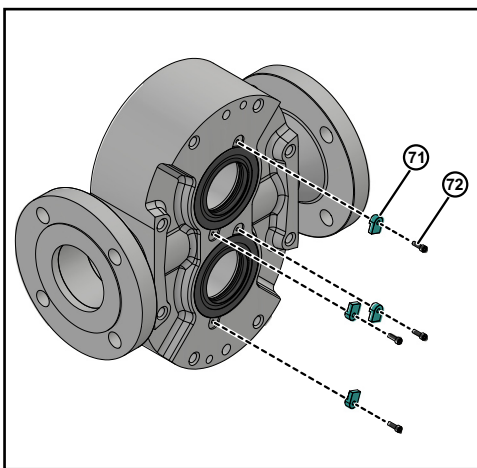
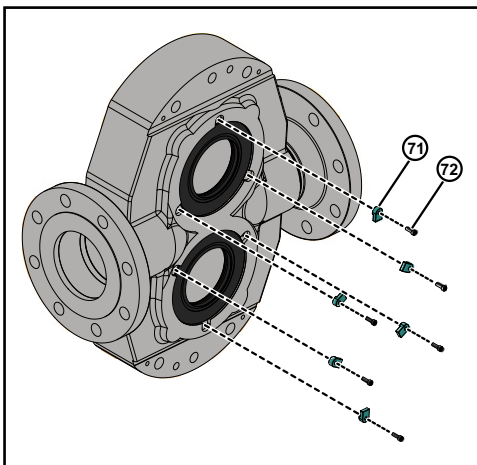

Figure 91 - Install Screws and Retainer-tab
Figure 92 - Install Screws and Retainer-tab
6. Install all the retainer-tab (71) and retainer bolts (72) onto the pump body, as shown in Figure 91.
NOTE: Figure 91 is applicable for model 006-130 and Figure 92 is applicable for model 180-370.